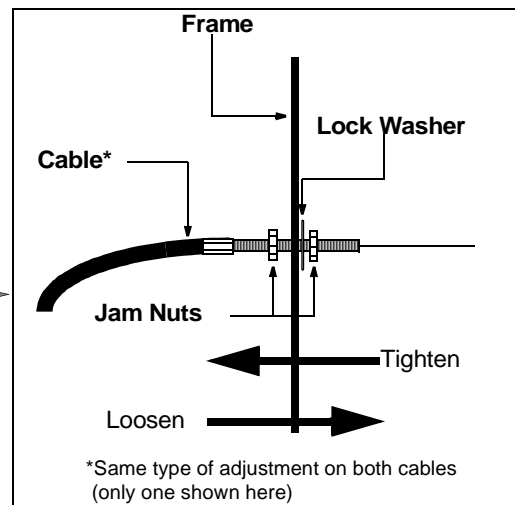

Figure 11
Adjustment to the brake pedal is made at the cable end. See Figure 11 .
- Locate the brake cable on the right side under the front housing. See Figure 11 .
- Using a pair of 1/2" wrenches, loosen the jam nuts and back the cable out to tighten or thread inward to loosen. See Figure 11 inset.
Adjustment to the "Go" Pedal is made at the cable end. See Figure 11 .
- Locate the speed control cable under the front housing. See Figure 11 .